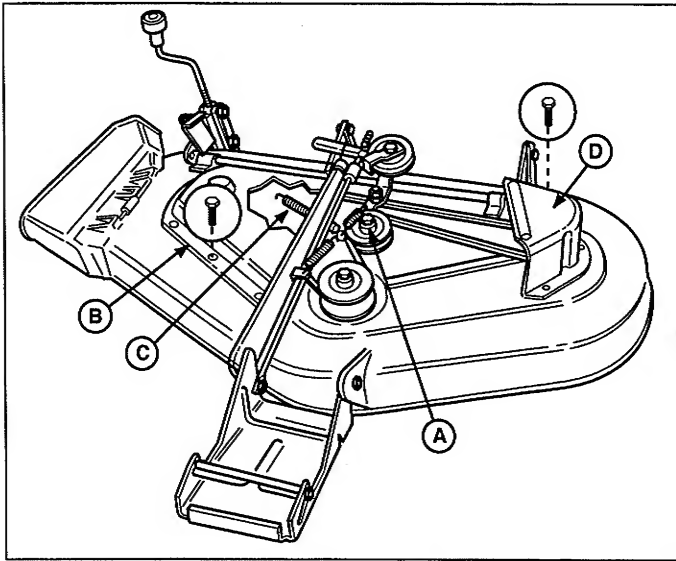
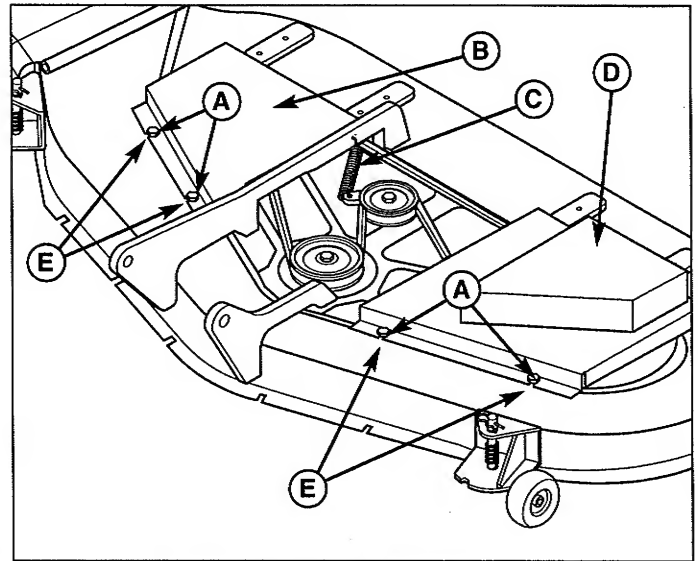

Figure 56. Mower Deck - 44" & 50" Mowers
Figure 57. Mower Deck - 54" Mowers
3. Remove the capscrews securing the right-hand arbor cover (B, Figure 56). Remove three capscrews securing left-hand arbor cover (D).
3. Remove the PTO belt. Remove the taptite screws (A, Figure 57) securing the belt covers and remove the belt covers (B, D).
4. Using a pair of locking pliers or a spring puller, remove the idler pulley spring (C, Figures 56, 57) from slot in deck.
8. Reinstall spring (C, Figures 56, 57) into its slot in mower deck.
9. Reinstall the left and right arbor covers (B and D, Figures 56, 57). **54" Models:** To provide proper belt cover clearance, make sure the alignment notches (E, Figure 57) are centered on the taptite screws (A).